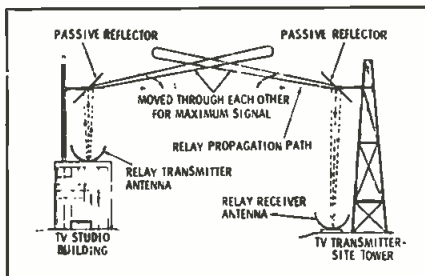

Fig. 8. Antenna and a passive reflector.
**Fig. 7. Beams above and below path.** the line of the signal path properly illuminates the flat surface to produce the predicted gain and signal-to-noise ratio. An increase in signal strength of a few db may be obtained by judiciously adjusting the reflector curvature. When the reflector surfaces have been properly aligned, the driving antenna should be moved in both azimuth and elevation to establish the proper maximum signal at the STL receiver site. Fig. 8 illustrates a passive reflector and antenna illustration.